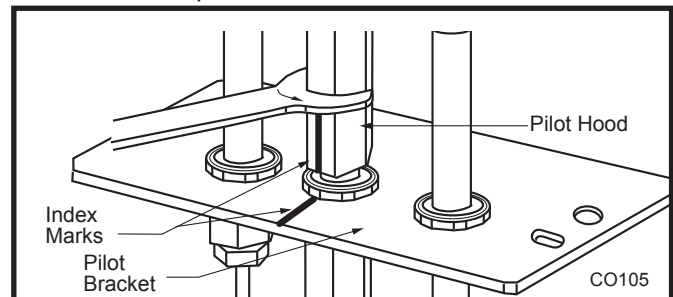

Fig. 86 Remove pilot hood.
1. Loosen pilot hood turning counterclockwise using a 7/16" wrench. (Fig. 86)